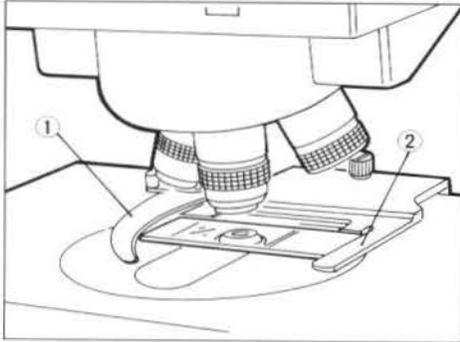

Fig. 31
① Open the spring-loaded specimen lever ① and slide the specimen slide into the holder. (Fig. 31)
② Push the slide all the way against the ledge ② of the specimen holder and release the lever ① slowly. (Fig. 31)